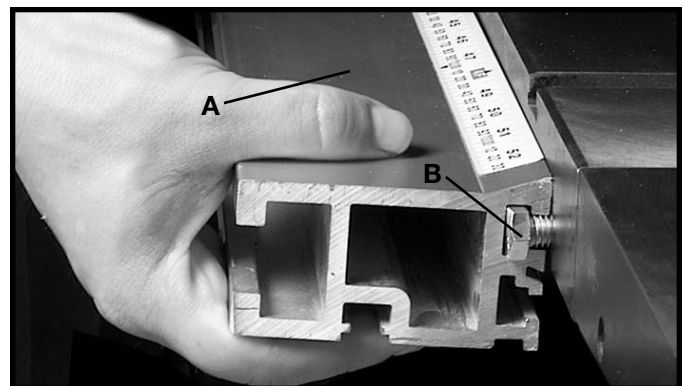
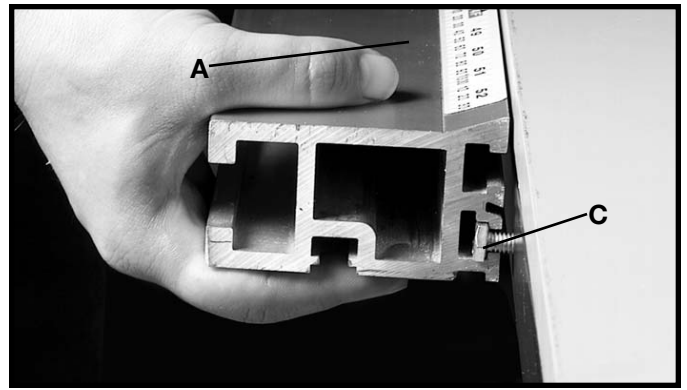

Fig. 55
Fig. 56
5. Slide the T-Slot guide rail (A) Fig. 55, onto the hex head of the bolts partially inserted in steps 3 and 4 above. **Note: The bolt heads on the saw table slide into the upper t-slot (B) Fig. 55 and the bolt heads on the extension table slide into the lower t-slot (C) Fig. 56.**